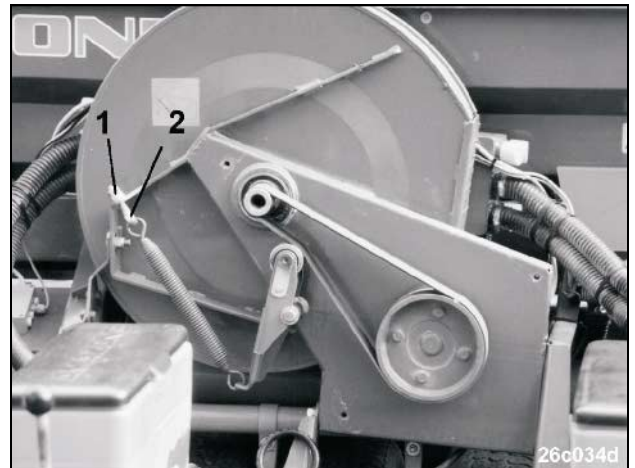

Fig. 181
- Slacken both counter nuts (Fig. 181/1) (Fig. 181/2). Set the tensioning spring length according to the table in para: "V-belt pulleys for different PTO shaft speeds".
- Retighten counter nuts (Fig. 181/1) .